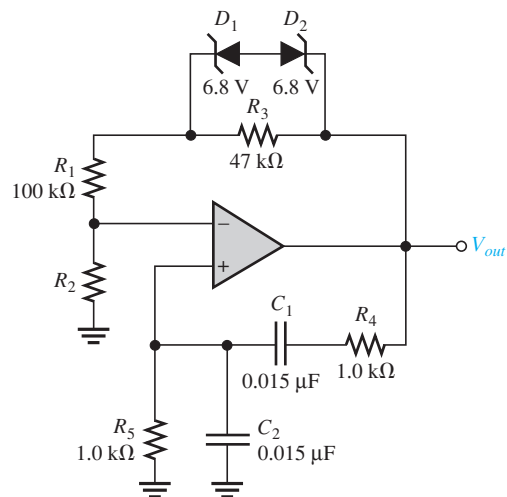

FIGURE 10-48
7. Determine the necessary value of R_2 in Figure 10-48 so that the circuit will oscillate. Neglect the forward resistance of the zener diodes. (*Hint*: The total gain of the circuit must be 3 when the zener diodes are conducting.)
8. Explain the purpose of R_3 in Figure 10-48.